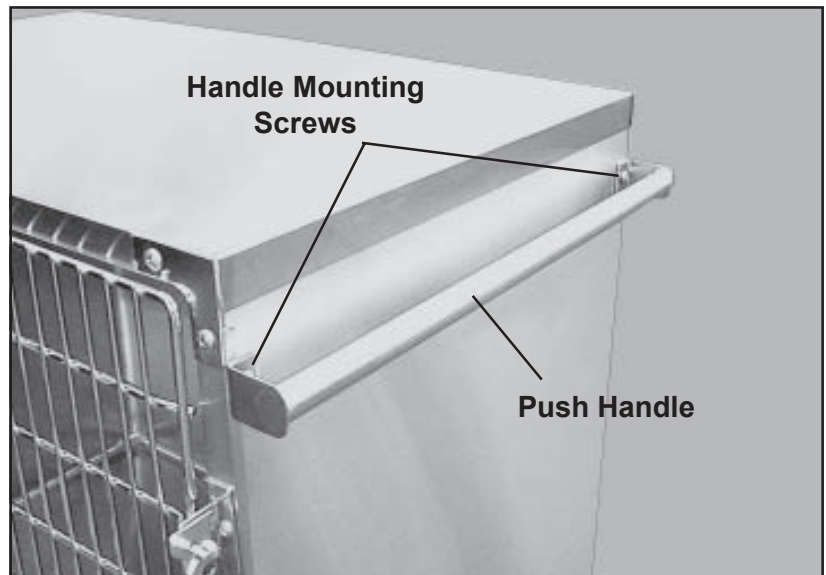

Figure 12. Push Handle Mounted on Cage
1. With a Phillips screwdriver, remove both handle mounting screws (Figure 12), and lift off the handle.